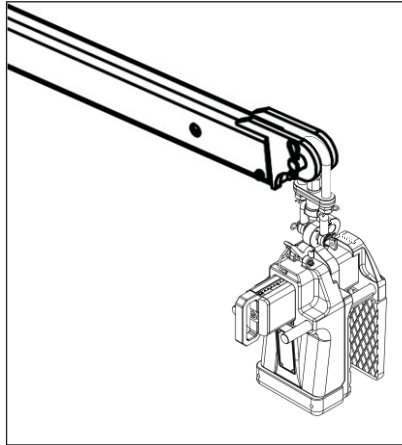

Figure 3.1
**Step 3:** Hook the Bison Lifter to a forklift boom (Figure 3.1).